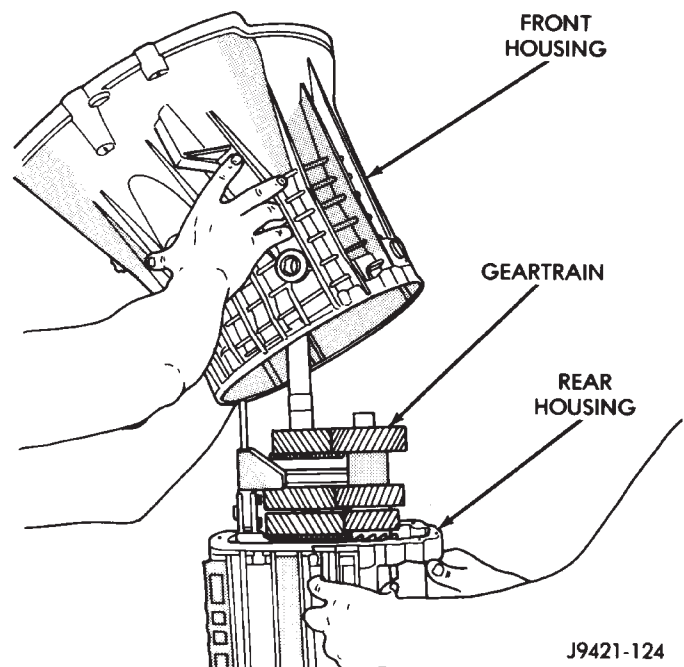

Fig. 121 Front Housing Installation
(6) Have helper hold rear housing and geartrain in upright position. Then install front housing on rear housing and geartrain (Fig. 121).